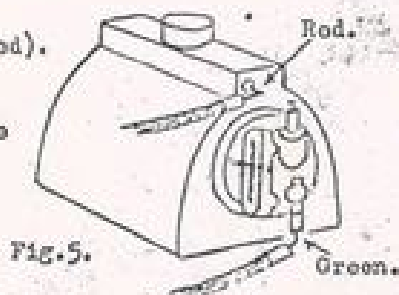

FIG. 5.
- 5.4 Place the Generator set next to the boiler unit on the R.H. side of the stove hole 4" away as per Fig. 5.